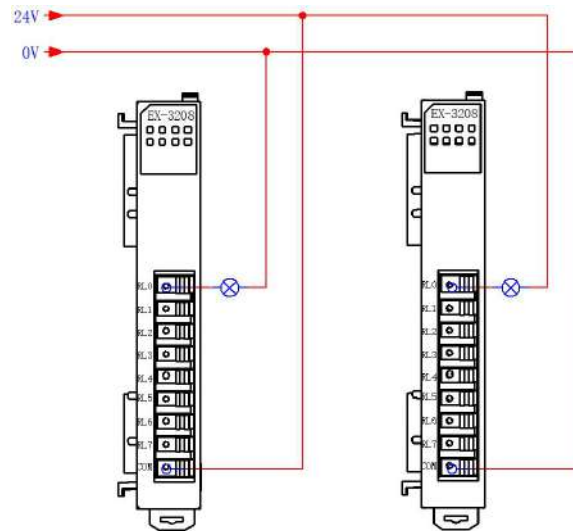

Figure 4-10 Wiring diagram of the EX-3208 relay output module
- Figure 4-10 shows the ex-3208 module wiring diagram.